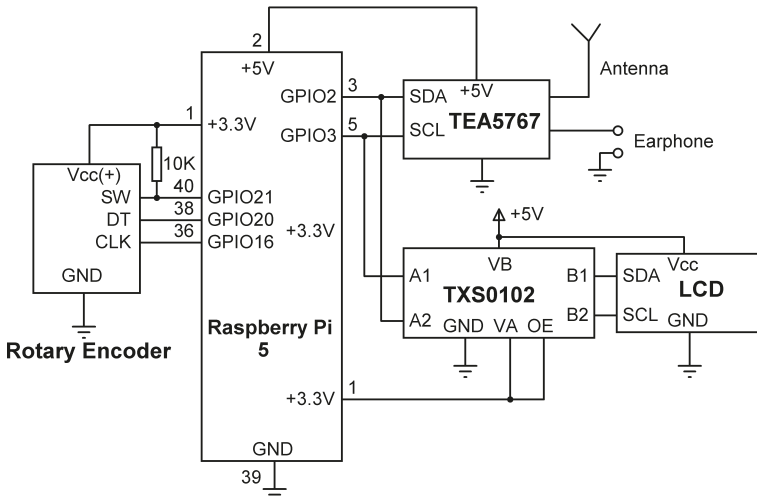

Figure 4.82: Circuit diagram of the project.
**Circuit diagram:** The circuit diagram of the project is shown in Figure 4.82. The connections between the Raspberry Pi 5 and the external components are as follows. Notice that the I2C LCD and the TEA5767 both use the same I2C port of the Raspberry Pi 5 and because they have different addresses, there is no problem: